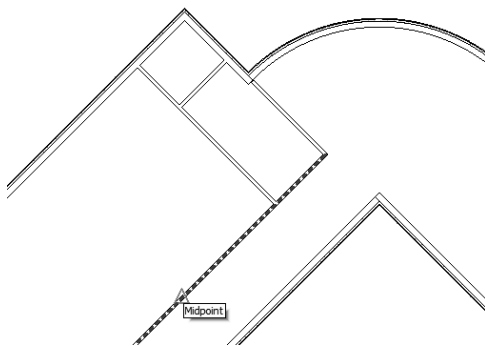

Figure 3-70 Starting the fifth interior wall from the midpoint of the first interior wall
10. To create the next wall, bring the cursor close to the midpoint of the first interior wall until the midpoint object snap appears, as shown in Figure 3-70. Click in the drawing to start the wall.